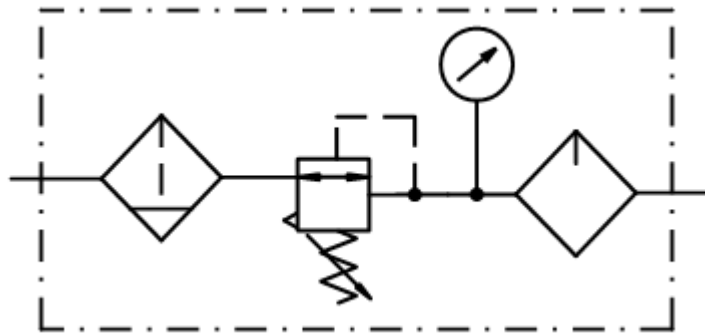

FIG 2.
B. The detailed symbol for a service unit is shown in Fig 2.